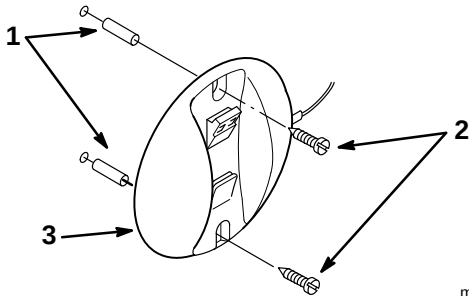

Figure 4
3. If installing the charger on wall board, plaster, or cement, insert the two wall anchors into the holes (Fig. 4).
4. Hold the charger against the wall and drive the screws into the wall anchors or holes (Fig. 4).